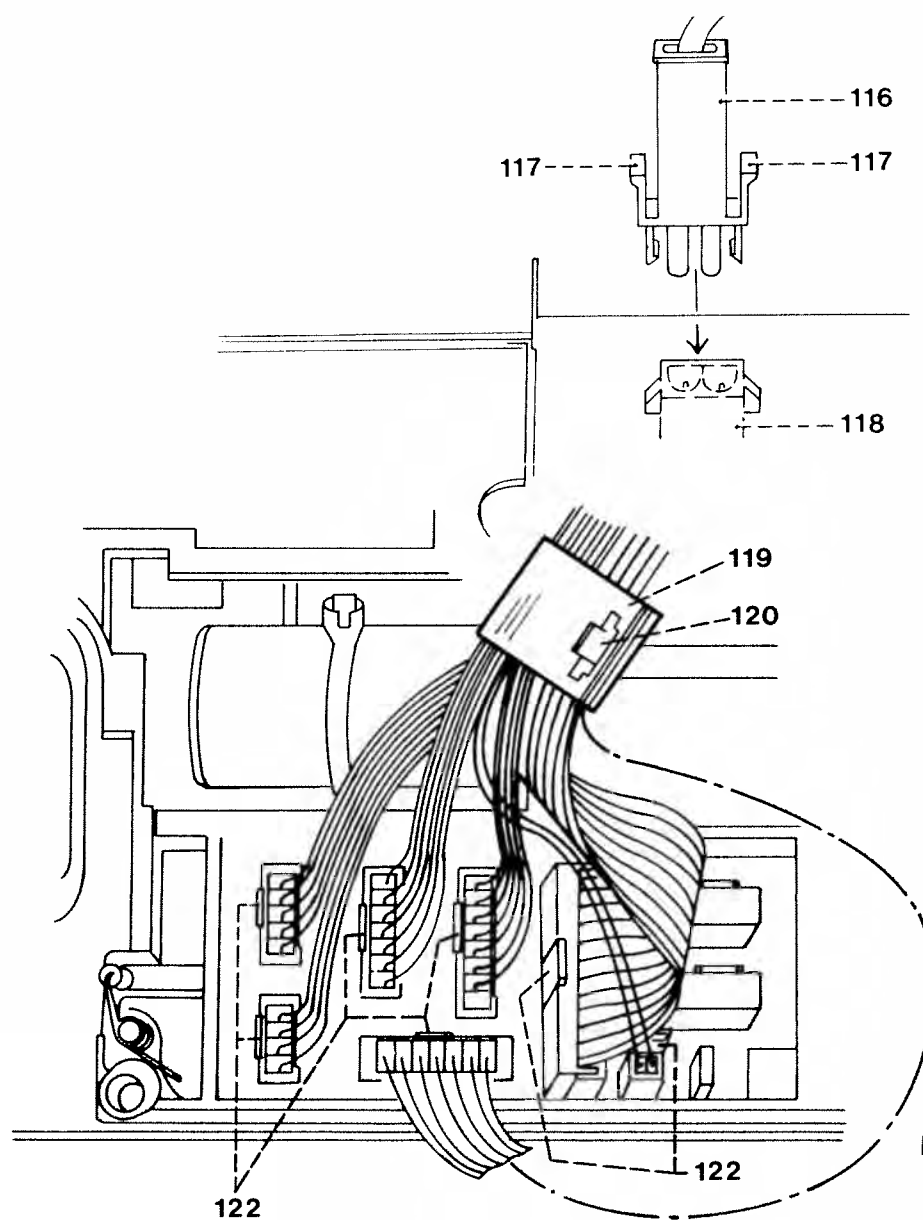

Fig. 34a
- Lift catches 122 by 1–2 mm and remove the seven flat cables with the connection plugs from the circuit board (Fig. 34a).